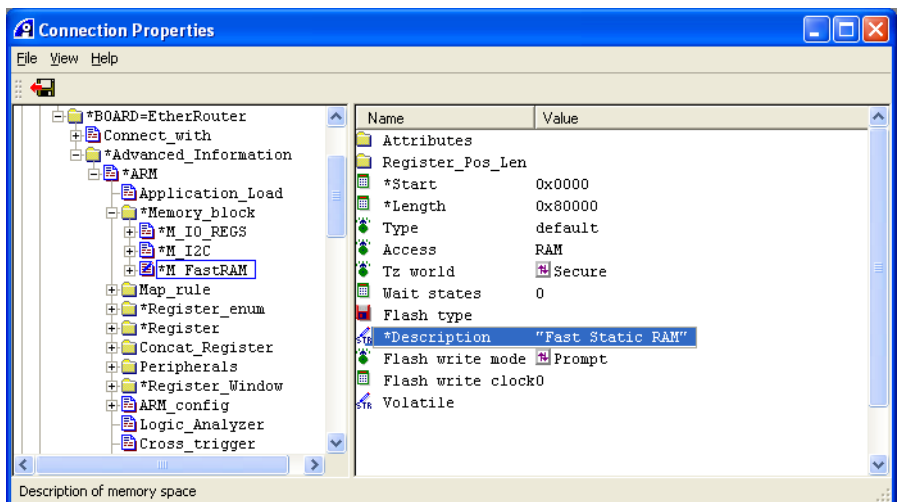

Figure 5-17 M\_FastRAM memory block
6. Change the settings for the M\_FastRAM memory block, shown in Figure 5-17: